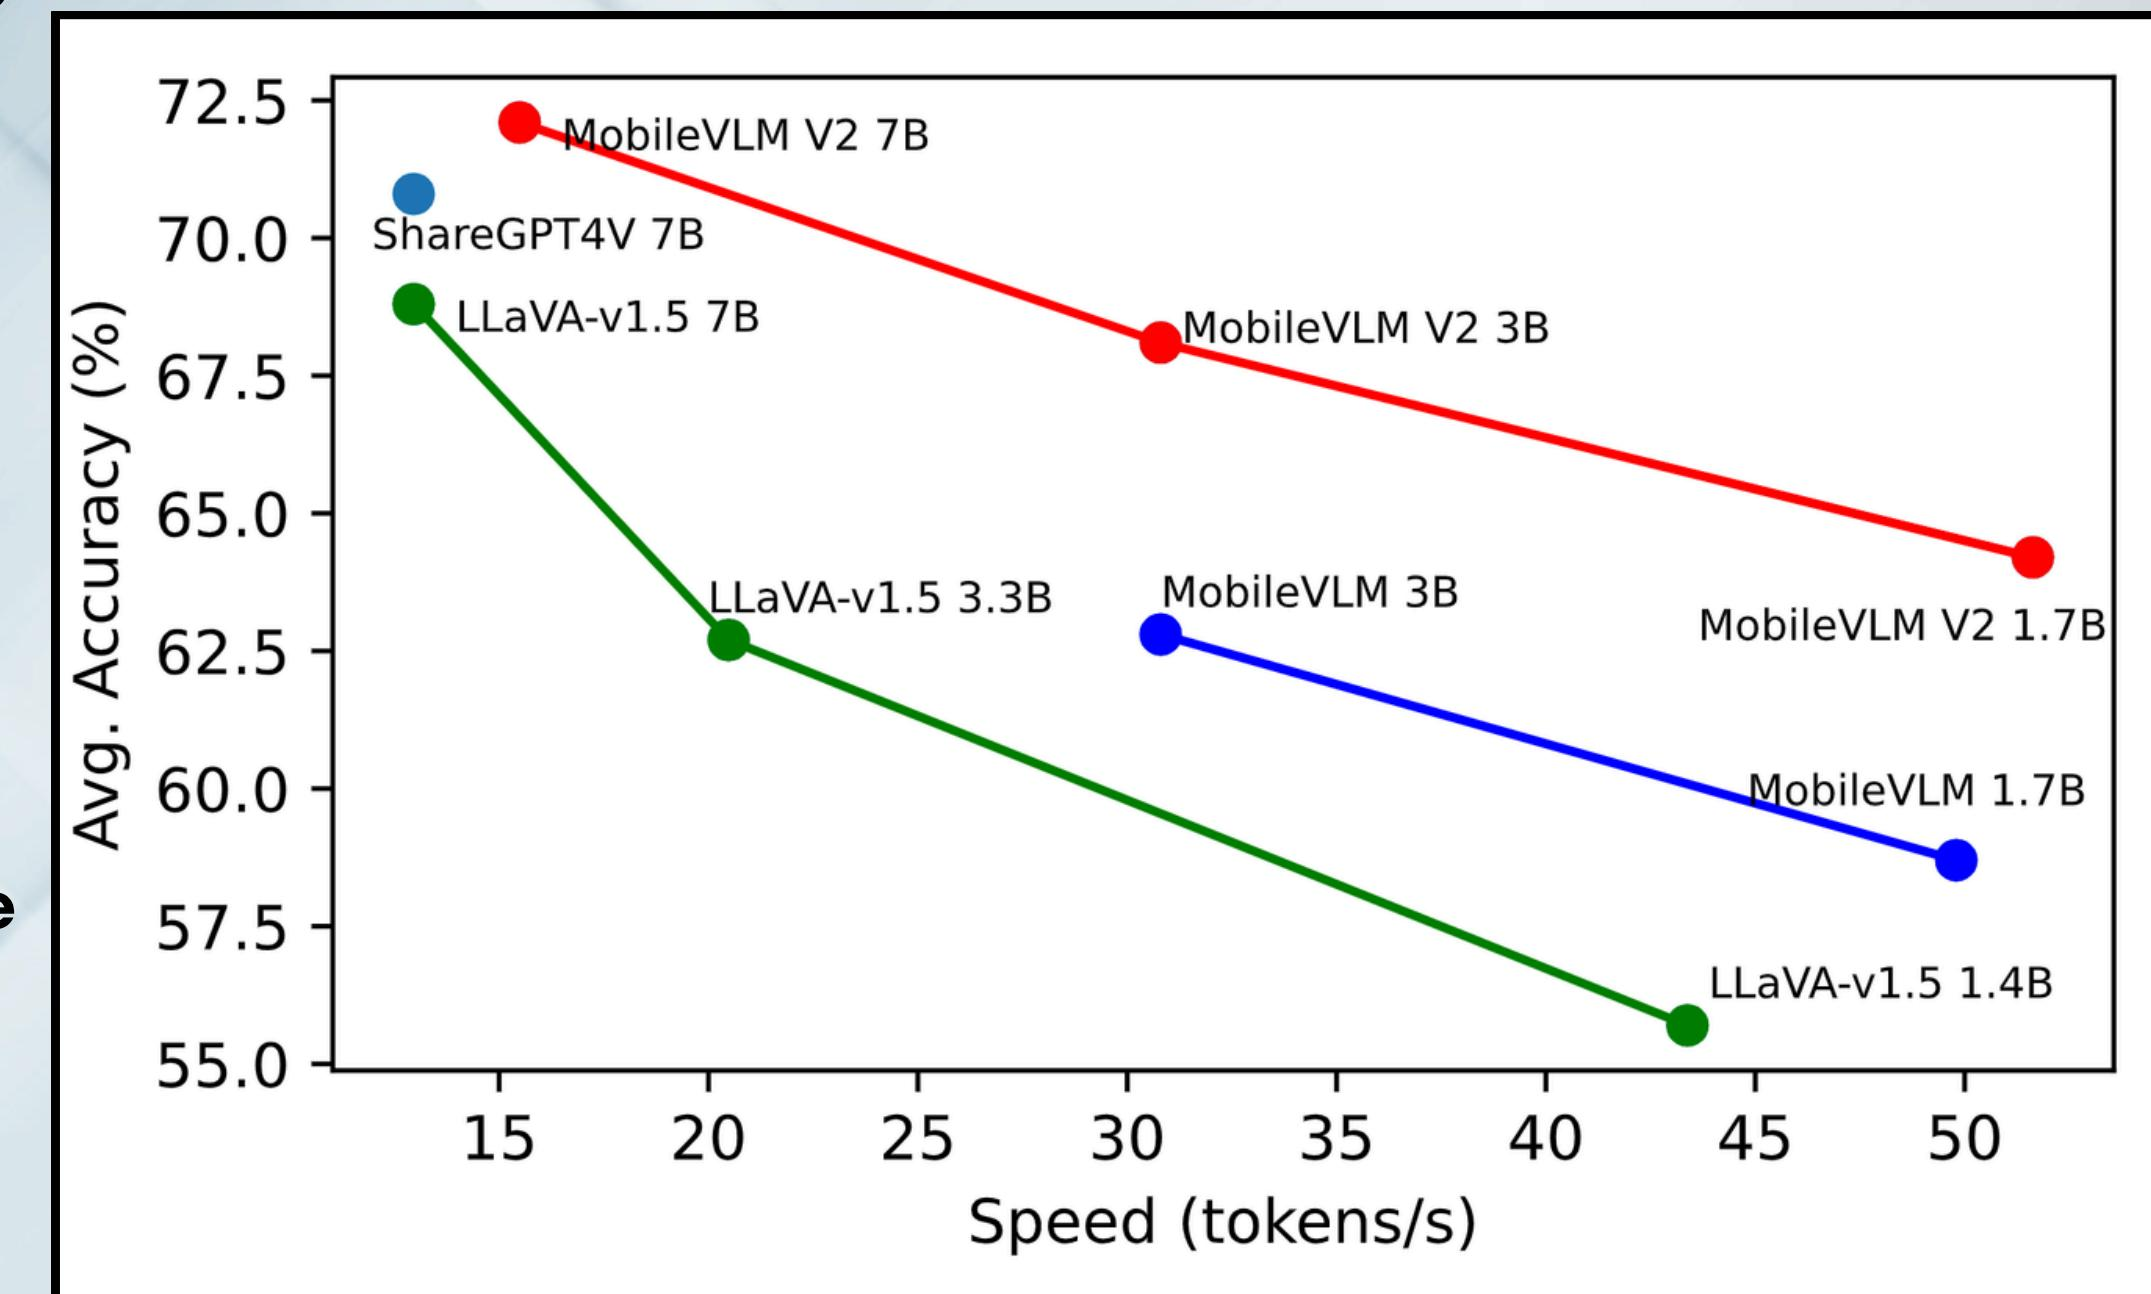

Fig. 1: SOTA VLMS Comparison – Avg. Accuracy vs. Speed (NVIDIA Jetson Orin, llama.cpp). MobileVLM V2 Achieves New SOTA with Faster Inference.
- Superior performance-speed balance (as shown in Fig. 1)